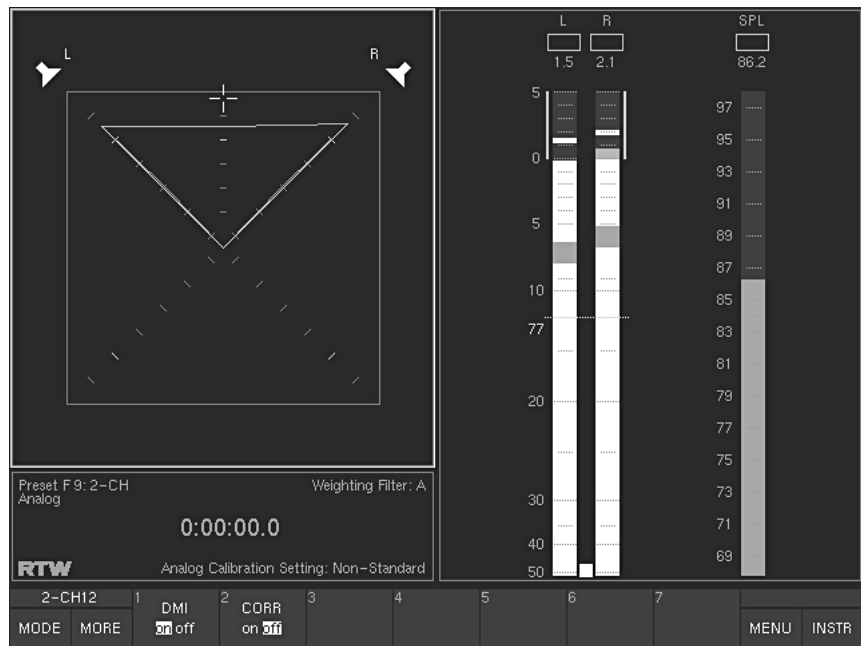

Fig. 5-12: The Stereo Sound Analyzer (SSA) instrument in 2-Channel Stereo mode
(Button/key 1, see Fig. 5-12)
(Button/key 2, see Fig. 5-12)